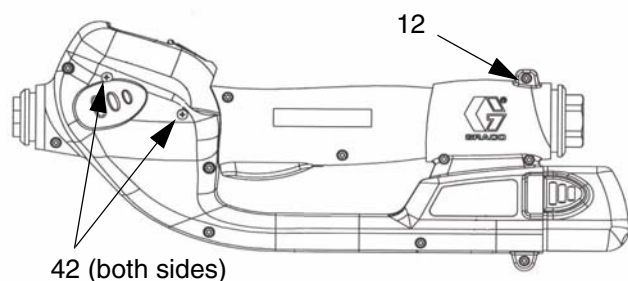

FIG. 32
1. Remove the battery (11). See **Parts Drawing for the 246008 and 249881 Electronic Meters** on page 32.
2. Slide the rear boot (24) off the hose.
4. Remove the impact guard (40) from the meter.
5. With a phillips screwdriver remove the four phillips screws (42) holding the bezel to the cover halves (18 & 19). See FIG. 32.
6. With a T-10 torx driver remove the remaining eleven screws (12) holding the cover halves together (18 & 19).